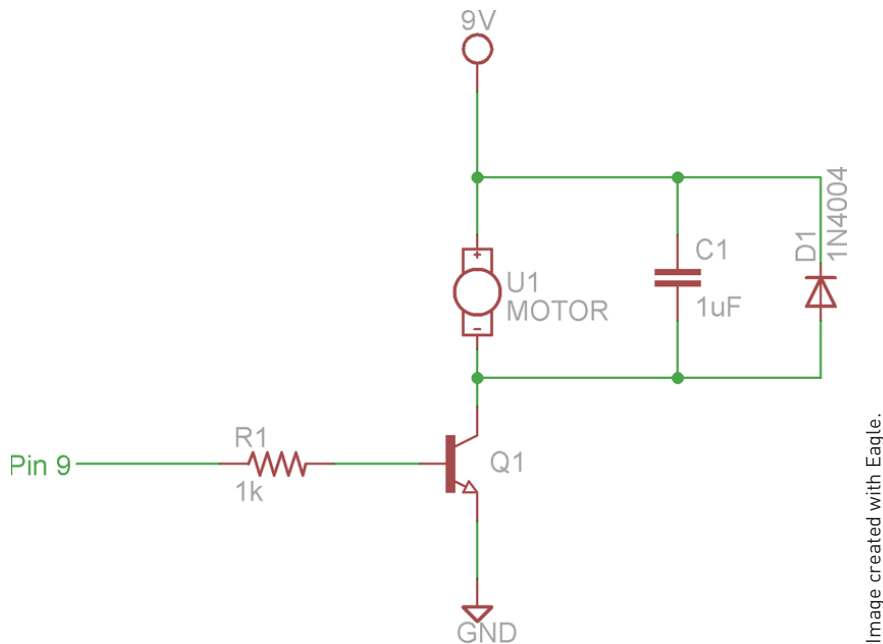
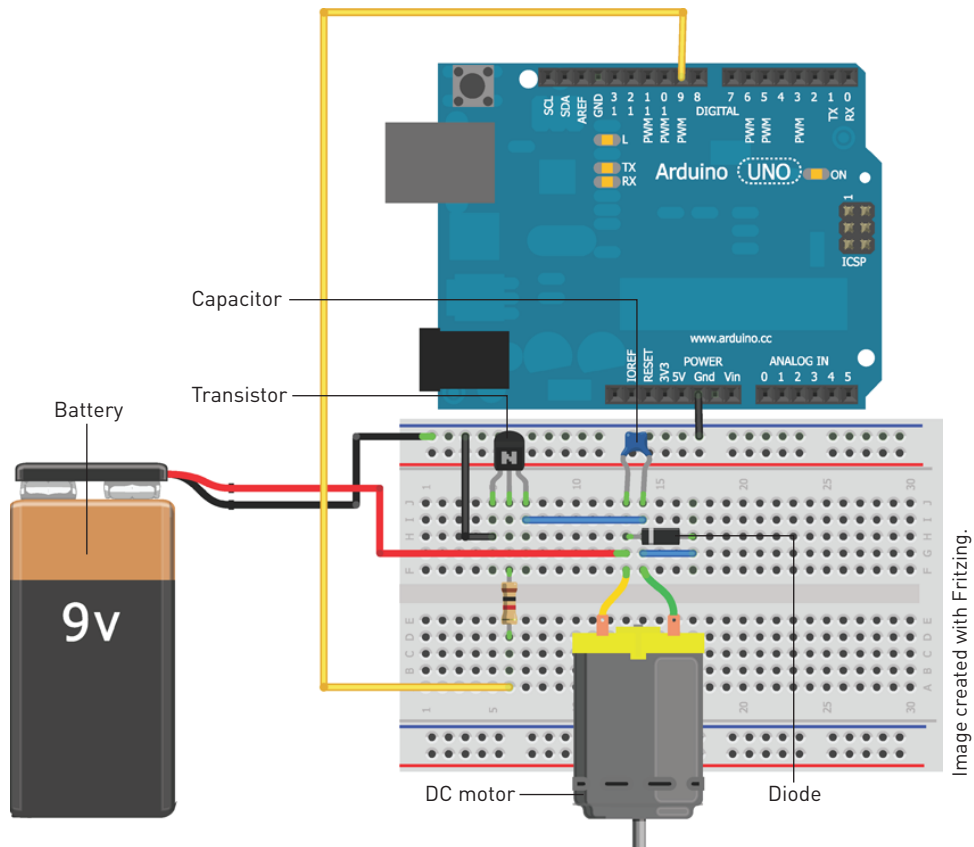

Figure 4-1: DC motor control schematic
Figure 4-3: DC Motor wiring
DC motors generally require more current than the Arduino’s built-in power supply can provide, and they can create harmful voltage spikes due to their inductive nature. To address this issue, you first learn how to effectively isolate a DC motor from your Arduino, and then how to power it using a secondary supply. A transistor will allow the Arduino to switch the motor on and off safely, as well as to control the speed using the pulse-width modulation (PWM) techniques that you learned about in Chapter 3, “Reading Analog Sensors.” Reference the schematic shown in Figure 4-1 as you learn about the various components that go into connecting a DC motor to an Arduino with a secondary power supply. Make sure you understand all of these concepts before you actually start wiring.
Note, as well, from the circuit diagram shown in Figure 4-1 that the power supply to the motor is 9V, instead of the usual 5V from the USB connection that you've been using. For the purposes of this experiment, a 9V battery suffices, but you could also use an AC-DC wall adapter. The reason for using a power source separate from the Arduino's built-in 5V supply is twofold:
Now that you understand the intricacies of controlling a brushed DC motor, it's time to get it wired up on your breadboard. Try to wire it by only referencing the previous schematic (shown in Figure 4-1). After you've tried to assemble the circuit using only the schematic, reference the graphical version shown in Figure 4-3 to confirm that you wired it correctly.
1. Make sure that you've connected the ground from your 9V battery to the ground from your Arduino. You might want to use the horizontal bus on the breadboard to accomplish this, as shown in Figure 4-3.